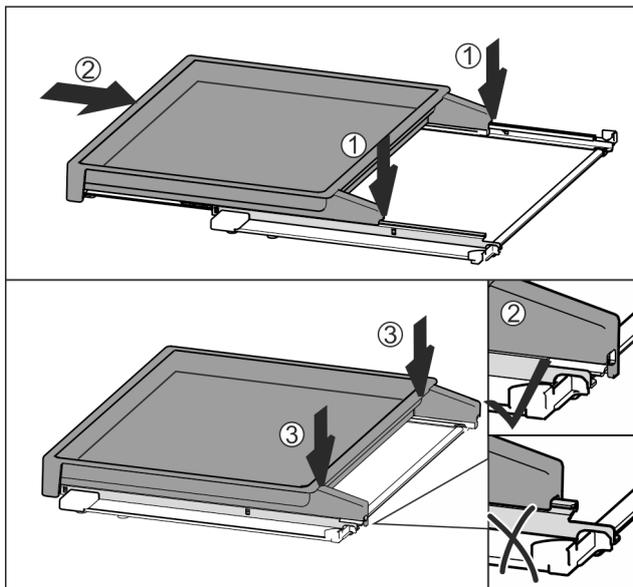

Fig. 37
- ▶ Place centrally on the rails Fig. 37 (1).
- ▶ Slide the pull-out board all the way in Fig. 37 (2).
- ▶ Press down at the back until it clicks into place Fig. 37 (3).